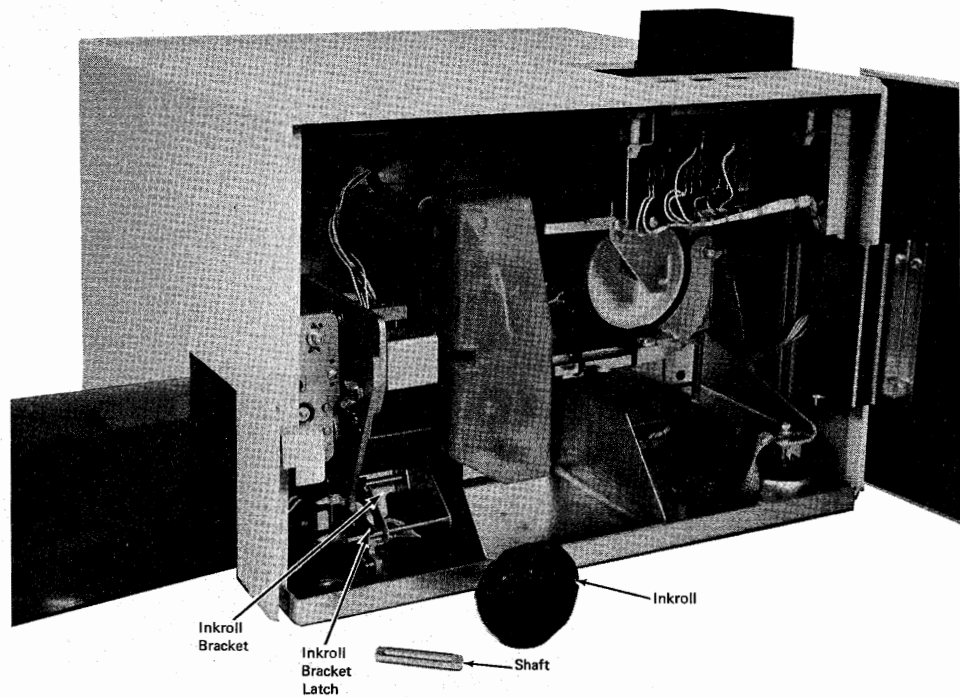

Figure 9-5. Replacing the Inkroll
- Disengage the inkroll from the typedrum by pressing down on the inkroll bracket (Figure 9-5) until the latch snaps into place.